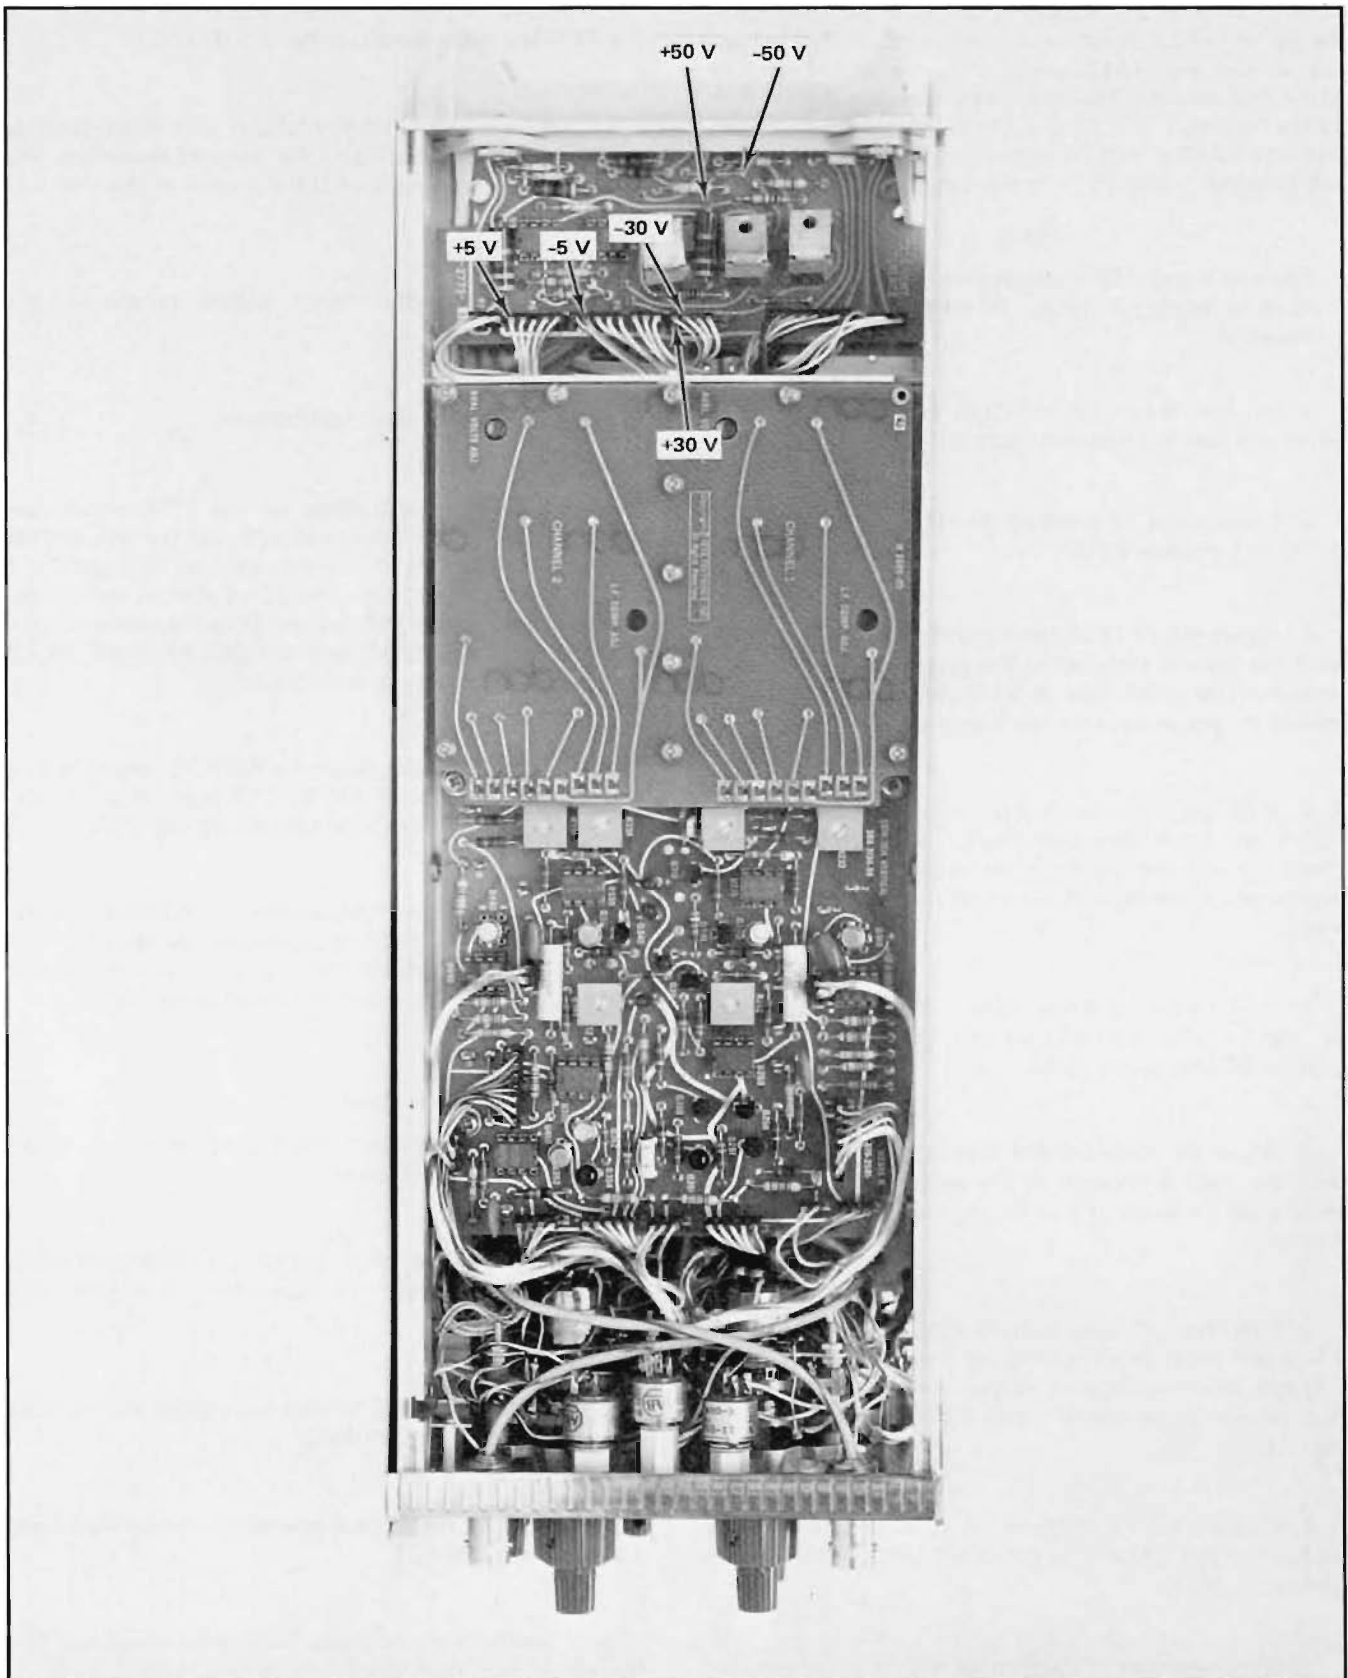

Fig. 7-1. Power Supply Test Points.
The power supply voltages in the 7S14 should be checked before any internal adjustments are made. However, do not check the supply voltages unless you expect to be making internal adjustments. Power supply checks are not to be considered performance checks. The location of the test points are shown on Fig. 7-1. Measure the supply voltages with the 7A13 and a 1X probe or some accurate DC Voltmeter.
The +50 V, -50 V, and +5 V supplies from the mainframe should be within $\pm 3\%$ of their nominal values when measured at the points of the 7S14 as indicated on Fig. 7-1. If the supplies are not within $\pm 3\%$, mainframe repair or adjustment is needed.
- b. Connect the 1X probe to the +50 V test point shown on Fig. 7-1 (resistor R615).
- d. Push the – polarity button, attach the probe to the –50 V test point shown on Fig. 7-1 (diode VR613), and check the –50 volt supply in the same manner as the +50 volt supply. Make note of the actual value for use in steps f and k.
- e. Connect the 1X probe to the –30 V test point shown on Fig. 7-1 (Pin 3-2) and set the 7A13 COMPARISON VOLTAGE controls to 30.00.
- g. Push the + polarity button, attach the probe to the +30 V test point shown on Fig. 7-1 (Pin 3-1) and check the +30 volt supply in the same manner as the –30 volt supply. The value must be within 1% of 0.6 the value of the +50 volt supply.
- h. Connect the 1X probe to the +5 V test point shown on Fig. 7-1 (Pin 6-1) and set the COMPARISON VOLTAGE controls to 05.00.
j. Push the – polarity button and attach the probe to the –5 V test point shown on Fig. 7-1 (Pin 5-2).